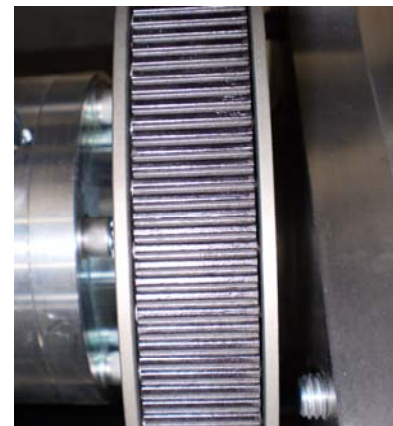

Figure 12
- d. Rotate rear sprocket several times by hand to register belt on sprocket. The belt should run in the center of the rear sprocket and approximately  $\frac{1}{8}$ " from inside edge of the front counter-sprocket. Make small adjustments if needed and recheck alignment. Figure 12